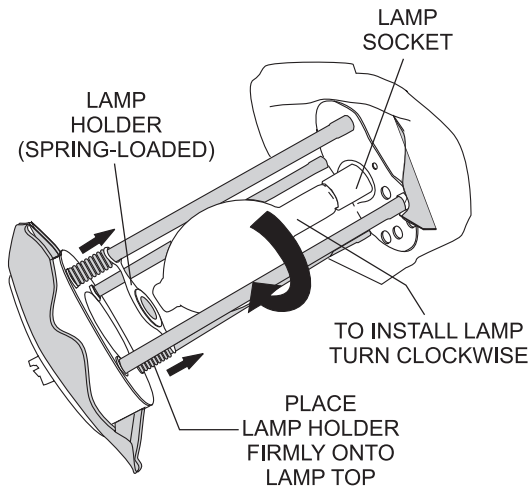

Figure 27. Installing the Lamp
1. When installing a new lamp (Figure 27) use only MQ recommended type lamp. See parts section of this manual. Failure to use correct type lamp could adversely affect lighting capability and may cause damage to the equipment.